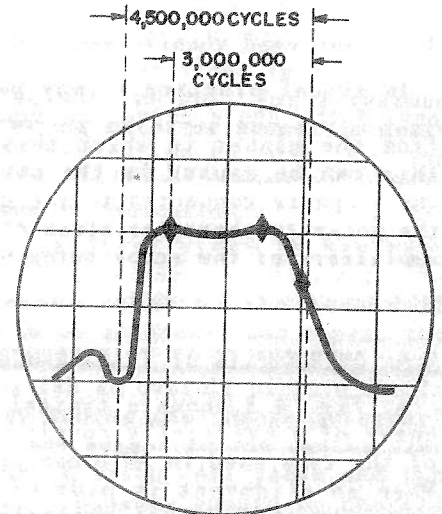
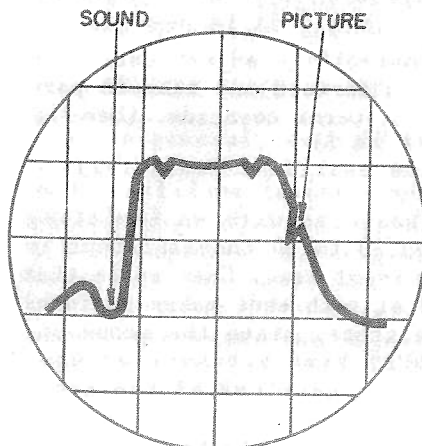

Fig. 4.5 - Television IF Response Curve with Oscillator Markers ---"Pips"
Fig. 4.6 - Television IF Response Curve with Absorption Markers
"Phasing Control"--- adjust until the forward and retrace patterns coincide. (See Fig. 4.5)
e. Each manufacturer supplies alignment charts or response curves, and the accompanying instructions should be followed to the letter. Although each stage may have a separate chart, the addition of the various stages should lead to an overall trace similar to that shown in Fig. 4.5.
g. During the entire alignment procedure, markers should be injected on the response trace as recommended by the manufacturer's charts. This will be an aid in emphasizing the right frequencies on each chart. As explained in the earlier sections, two types of markers are provided, both being set by the same "Marker" dial. When using the internal oscillator as a marker, the "Int. Marker" switch should be turned to "OSC", and pips will result as shown in Fig. 4.5. The absorption marker will make indentations in the pattern as shown in Fig. 4.6, and the amplitude of either type marker may be changed by adjustment of the "Marker Injection" control.
a. This is usually a trimming-up adjustment where the generator is connected to the antenna, and the sweep is set for the middle of the channel being aligned. The "Mc. Sweep" should be set for about 10 mc., and the scope connected to the video detector load resistance as before. At this point RF trimmers are adjusted until the response is a maximum corresponding to the typical trace of Fig. 4.5.
b. It will be noted in Figure 4.5 that markers have been inserted on the overall response curve. In order to obtain such markers in receivers which have one stage of RF preselection, it may be necessary to connect from the "External Marker" binding post to some place along the IF stages. The reason for this being that in receivers where preselection is found, the marker frequencies which are in the vicinity of 20 mc. will probably not ride through the RF stages as these stages are tuned for channel frequencies from 44 mc. on up and would probably reject the lower frequency IF markers. When making such a connection, the marker injection control can be used to control the strength of the markers.
c. Response Curves - The response curves illustrated in Figures 4.5 and 4.6 are the type which would be ordinarily expected when using the Model 610A with Hickok oscillographs having provisions for return elimination.
When using other scopes where return elimination is not available, a condition might exist in which, for example, Figure 4.5 might appear as illustrated in Figure 4.13 or Figure 4.14.